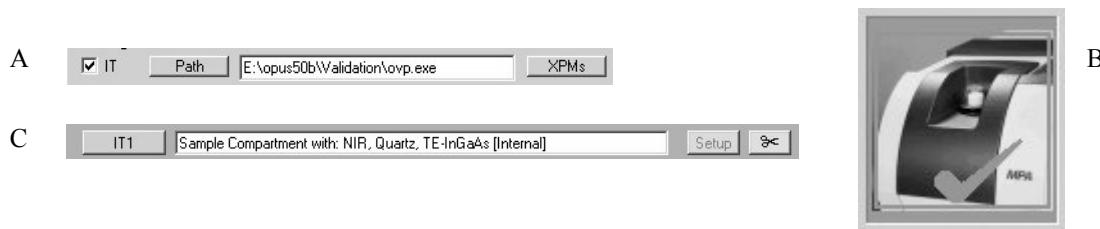

Figure 286: Test channel settings
Figure 286 compares the first IT position of each dialog. The first position in the *User Settings* dialog (A) correlates to the first icon on the *Instrument Status* dialog (B), which correlates to the first position in the OVP setup dialog (C).